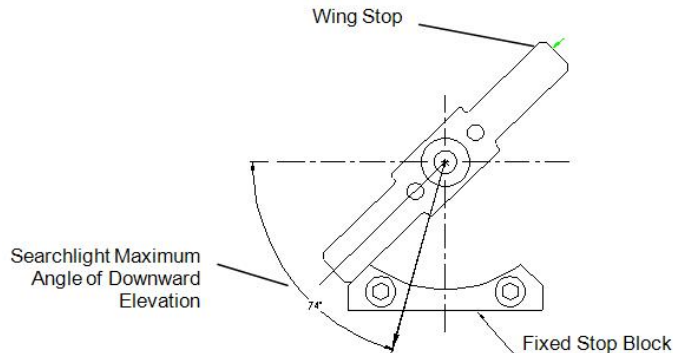
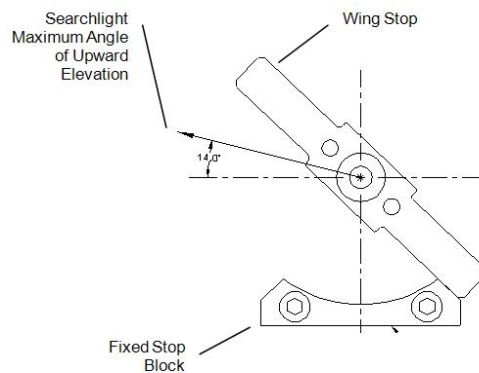

Figure 28 Maximum Lookdown Angle
Figure 29 Maximum Lookup Angle
Figure 28 and Figure 29 show how the Fixed Stop Block acts to constrain the movement of the Wing Stop. The Wing Stop is attached to the kidney-shaped plate that is mounted on the Searchlight head. It rotates in a clockwise or counter-clockwise direction to change the elevation of the Searchlight. Its rotation is limited by the Fixed Stop Block mounted on the side arm of the Gimbal. If no adjustment Stop Blocks are mounted on the Horseshoe Plate of the Gimbal side arm, the Fixed Stop Block permits the widest range of elevation movements—from a maximum lookdown angle of -74° to a maximum lookup angle of $+14^\circ$ (a total of 88°).
- Figure 28 shows the Wing Stop positioned in the maximum lookdown angle (-74°).
- Figure 29 shows the Wing Stop positioned in the maximum lookup angle ($+14^\circ$).